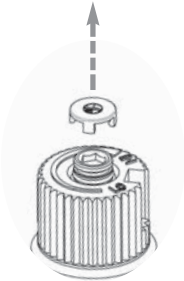

Fig. 1
- 8) Remove the black protection cap by hand from the high-low knob (Fig. 1).